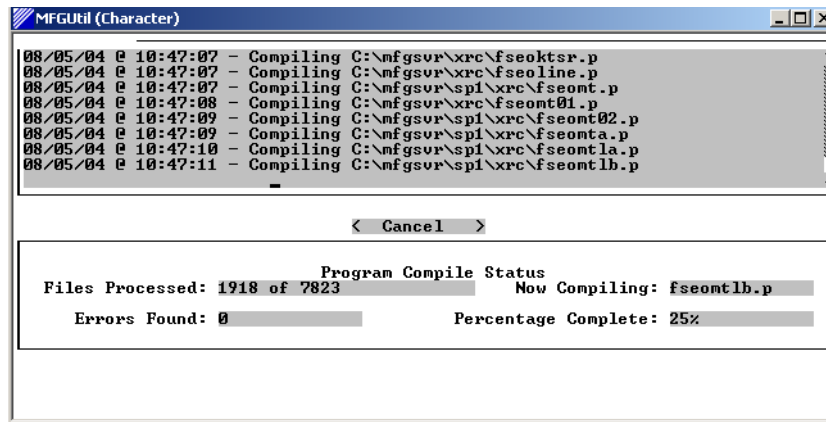

Fig. 16
- 6 A summary screen displays where you can modify the PROPATH if necessary. Choose Continue to start the compile. A progress screen displays, Figure 16.